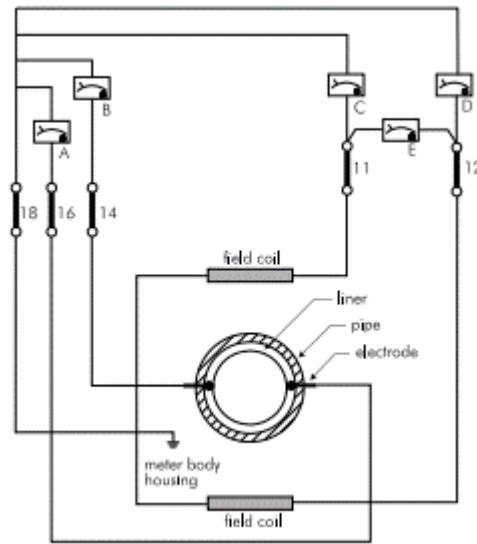

Figure A-2. Dry Meter Body Resistance Check Points
5. Use a multimeter to measure resistance at 5 points (see Figure A-2 and the accompanying table).